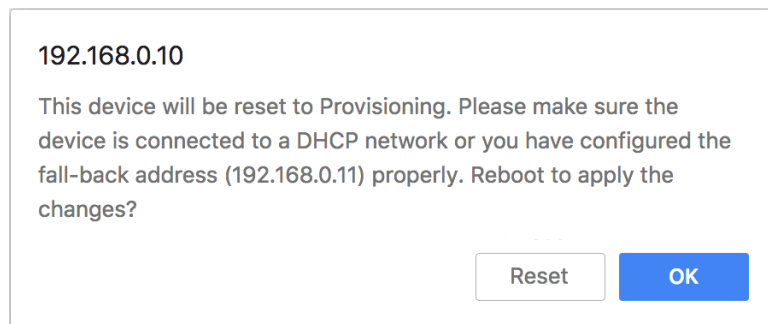

Figure 18. Unit reboot dialog (typical)
- The web browser will show the unit reboot dialog (Figure 18 (page 55)).